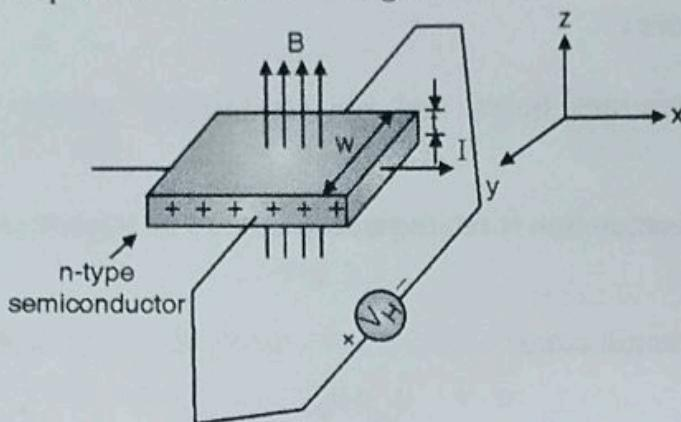

Fig. 1.5.1: Hall effect
- If a metal or semiconductor, carrying a current I is placed in a transverse magnetic field B , an electric field E is induced in the direction perpendicular to both I and B . This phenomenon is known as **Hall effect** and the electric field or voltage induced is called **Hall voltage (V_H)**. The physical process of Hall effect is as follows. Consider a specimen along positive x -direction (Fig. 1.5.1).
- If the specimen in Fig. 1.5.1 is assumed to be of n-type, then magnetic force experienced by electrons will be towards -Y direction as it is applied transversely.